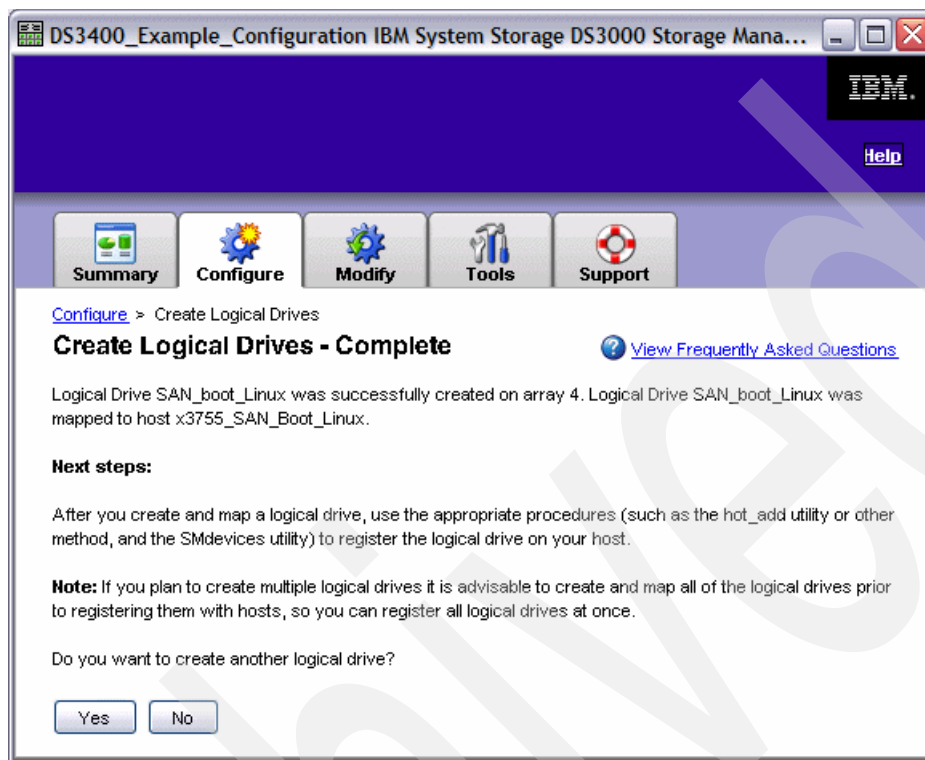

Figure 26-18 Logical drive creation complete
8. The logical drive is created and assigned to our host. The completion window displays (see Figure 26-18) and asks whether we want to create another logical drive. Click **No** to finish this section.